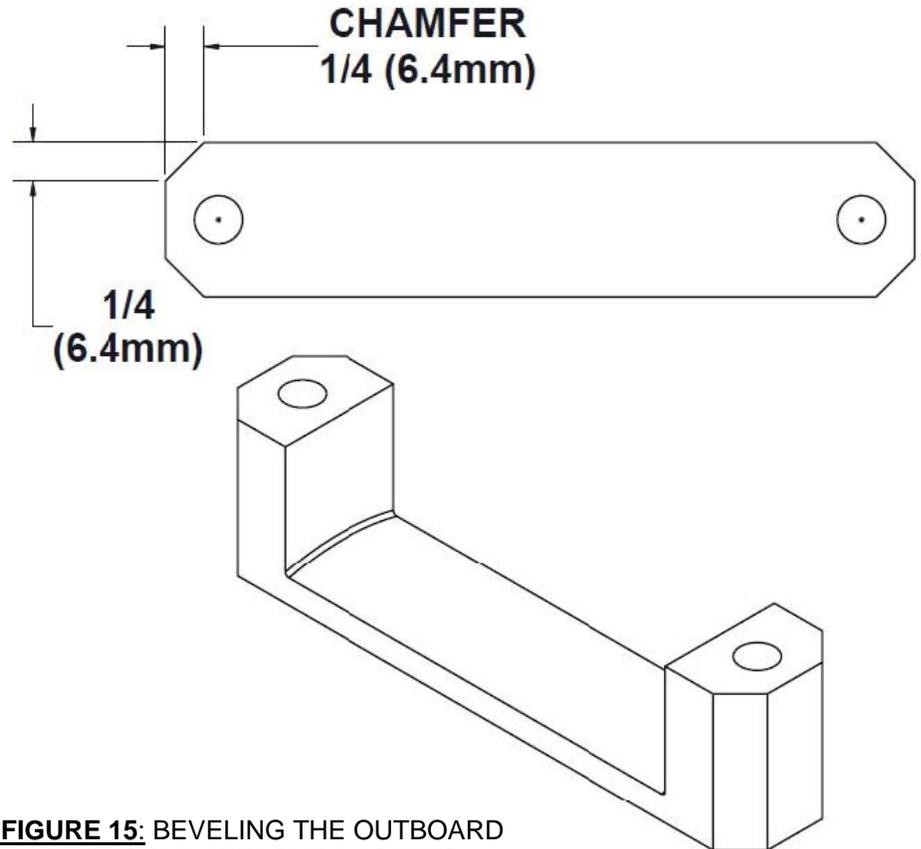

FIGURE 15: BEVELING THE OUTBOARD MAIN GEAR ATTACH BRACKETS
Step 32: Add bevels to the four corners of the U-1202 Outboard Main Gear Attach Brackets as shown in Figure 15, and detailed in RV-12 SB 12-09-2.